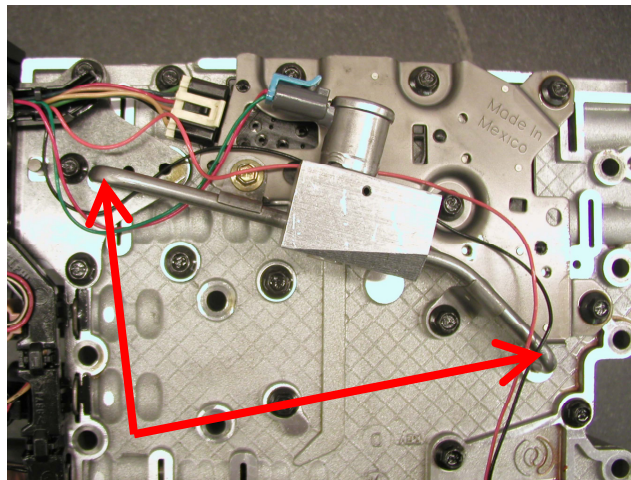

Figure 11: Installing the tubes
14) Install the auxiliary valve body assembly and the two tubes into the lower valve body section. Be careful when installing the metal tubes into the lower valve body, gently tap the two tubes in equally where marked in Figure 11; the tubes will drop right in.